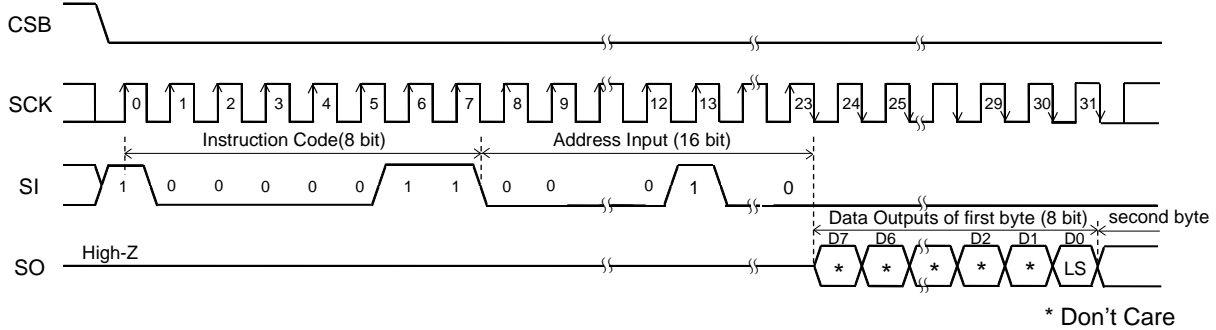
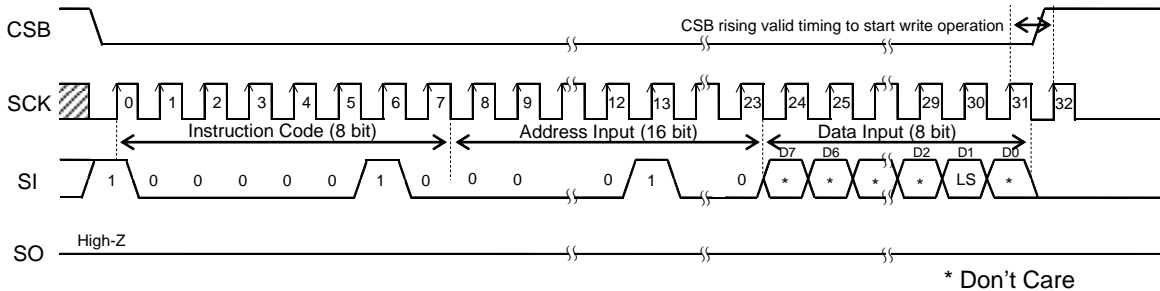

Figure 49. Read Lock Status Command
Figure 50. Lock ID Page Command
*(Note 19)* Refer to Figure 49 and Figure 50